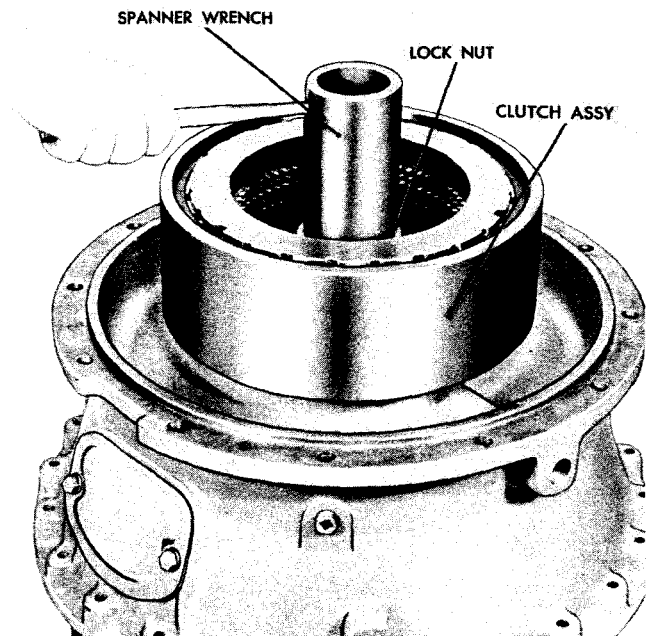

Fig IX-7. Removing (or installing) lock nut
(4) Straighten the portion of the lock nut that is bent into the shaft recess.
(5) Using a spanner wrench, remove the lock nut from the converter output shaft (fig. IX-7).
(4) Install the lock nut, flat side next to clutch hub, and tighten it (fig. IX-7). Lock the nut to the shaft by bending a portion of the shoulder on the nut into the recess provided in the shaft. Place a gasket on the housing split line.